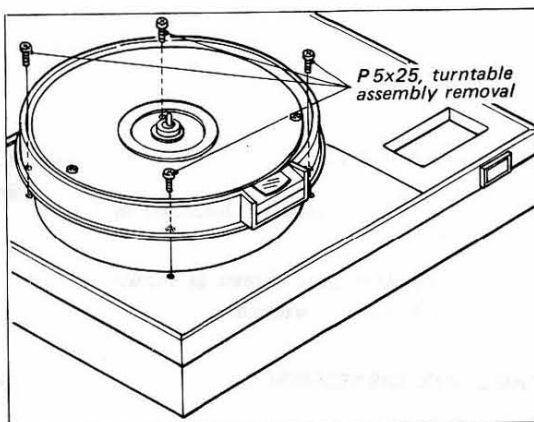

Fig. 2-3. Turntable assembly removal
3. Remove the four screws securing the turntable assembly to the wooden case shown in Fig. 2-3. This frees the turntable assembly.